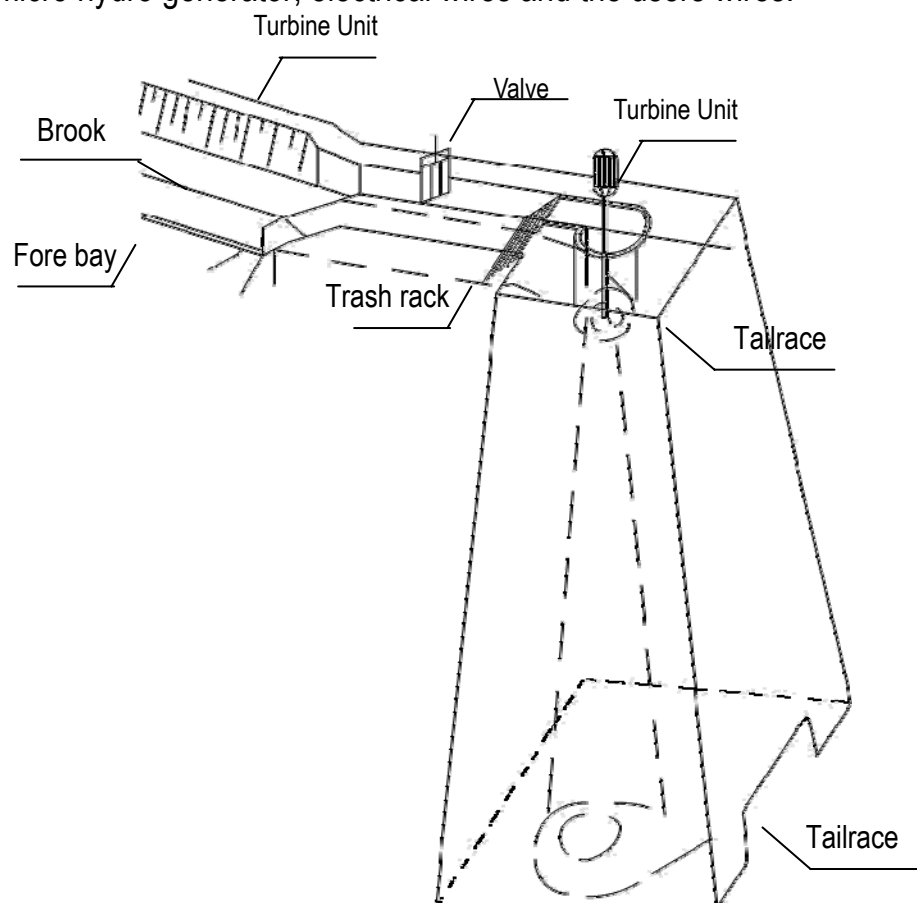

Figure1: The project of micro hydro generator using pipe
The typical micro hydro generator station is as follows (figure 1), which consists of earthwork (inlet conduit construction, unit room and drain etc), the micro hydro generator, electrical wires and the users wires.
D. The function of the tail water room is a purpose to guarantee tail pipe export to usually immerse into the water roughly 20-30 CM attains to seal completely the tail pipe. (seen the figure 1)